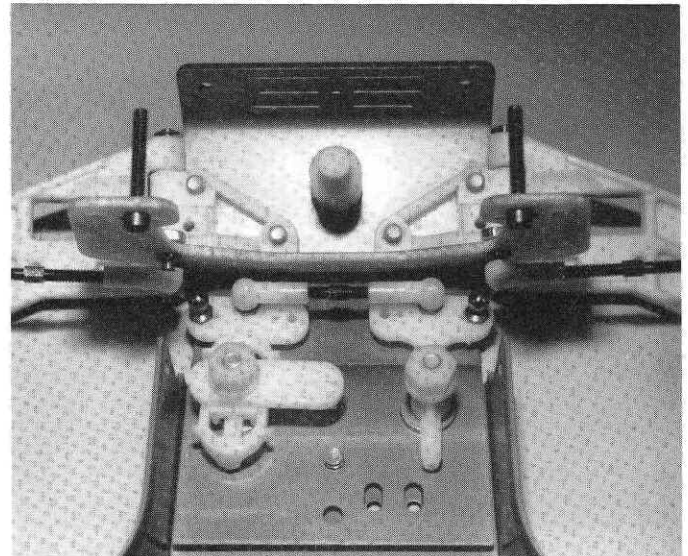

Fig. 25
- Fig. 25** Place the servo saver onto the 2 screws, as shown. Take the 2 nylon nuts and screw them down until the servo saver starts to tighten, then back the nuts off about 1/2 turn until the servo saver arms pivot freely. (Ignore the tube struts shown in photo. They will be installed later.)